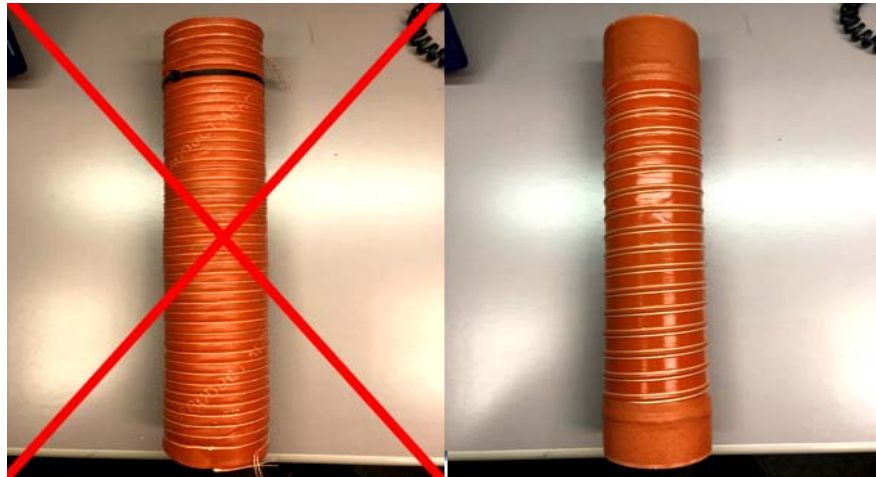

Figure 1: Left - SCEET Hose, Right - Current DAI Part
- 1.4.1 As shown in Figure 1 below, the SCEET hose can be identified by the “Aeroduct Product” stamping (or other reference), single string reinforcement and non-reinforced ends. The DAI part can be identified by the double stitching and in later serial number, the reinforced ends.